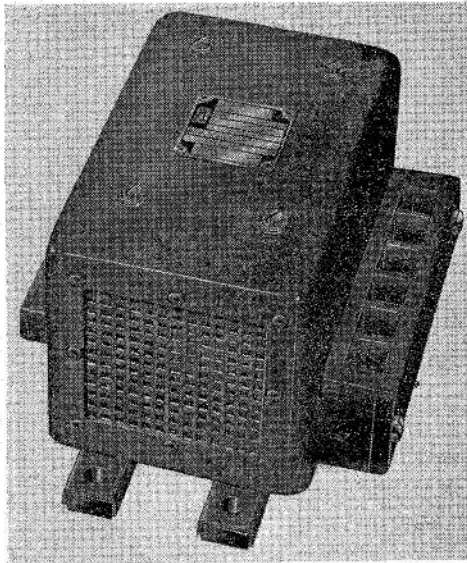

Fig. 1. Transformer rectifier unit,
2. The unit (fig. 1 and 2) incorporates six diode rectifiers, a current transformer, a 250 μ F capacitor, together with a connection board and a.c. and d.c. terminal blocks. The transformer side brackets, in conjunction with round and hexagonal spacers, support the transformer assembly and diode rectifiers, the whole being assembled on to the mounting plate assembly.
4. The complete transformer and diode rectifier assembly, including the 250 μ F capacitor, is housed within a metal cover which is perforated at both ends. The cover is secured to four hexagonal spacers mounted on the rectifier insulating base by ch/hd. screws and associated locking washers. The a.c. and d.c. terminal block and cover assemblies project outside the metal case of the unit; the a.c. terminal block is mounted on the right-hand side of the unit as shown in fig. 1 and 2, and the d.c. terminal block on the left-hand side.